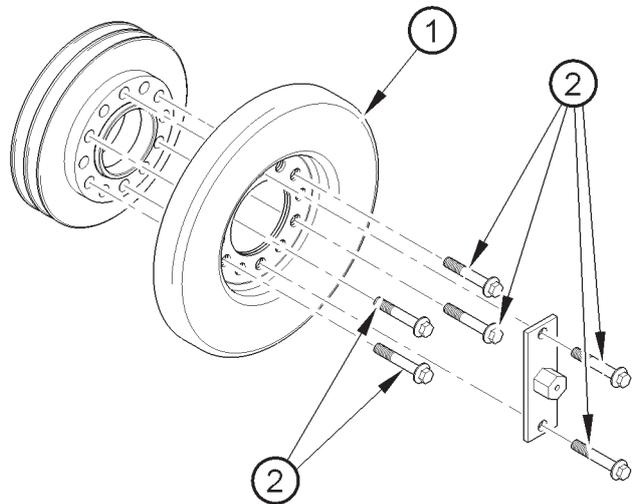

Figure 27
**Caution:** A vibration damper (figure 27 items 1) should be renewed if there is impact damage to the outer casing or if there is leakage of the viscous fluid from the cover plate.
Check that the six bolts (figure 27 item 2) for the viscous damper are tightened correctly: